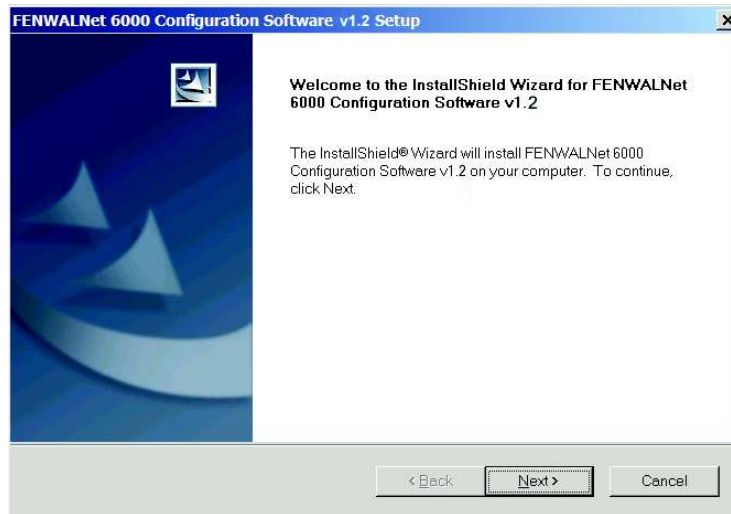

Figure 1-1. FCS 6000 Welcome Screen
3. After the InstallShield® Wizard is finished processing, it displays the InstallShield Welcome Screen (Figure 1-1). Select the **<Next>** button to proceed to the next screen.